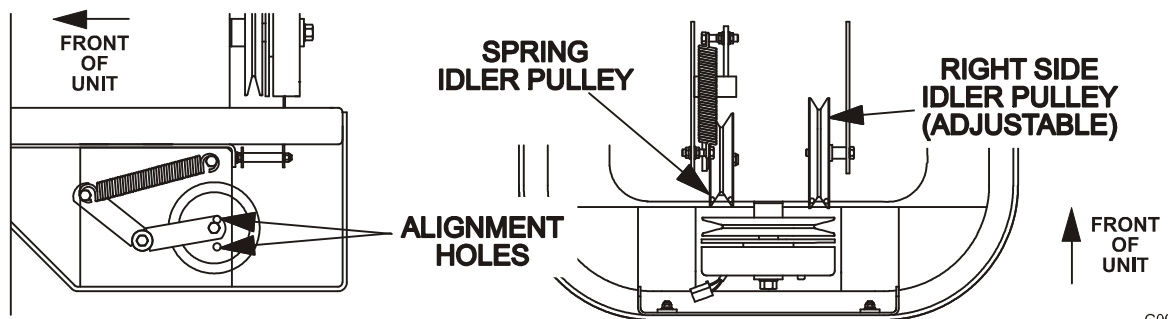

FIGURE 12
- b) Check to make sure the center of the bolt head in the center of the spring loaded pulley, on left side engine deck support, is positioned between the centers of the two alignment holes in the left support plate (See Figure 12). It is necessary to adjust the belt tension when the center of the bolt head is at or below the center of the bottom alignment hole.